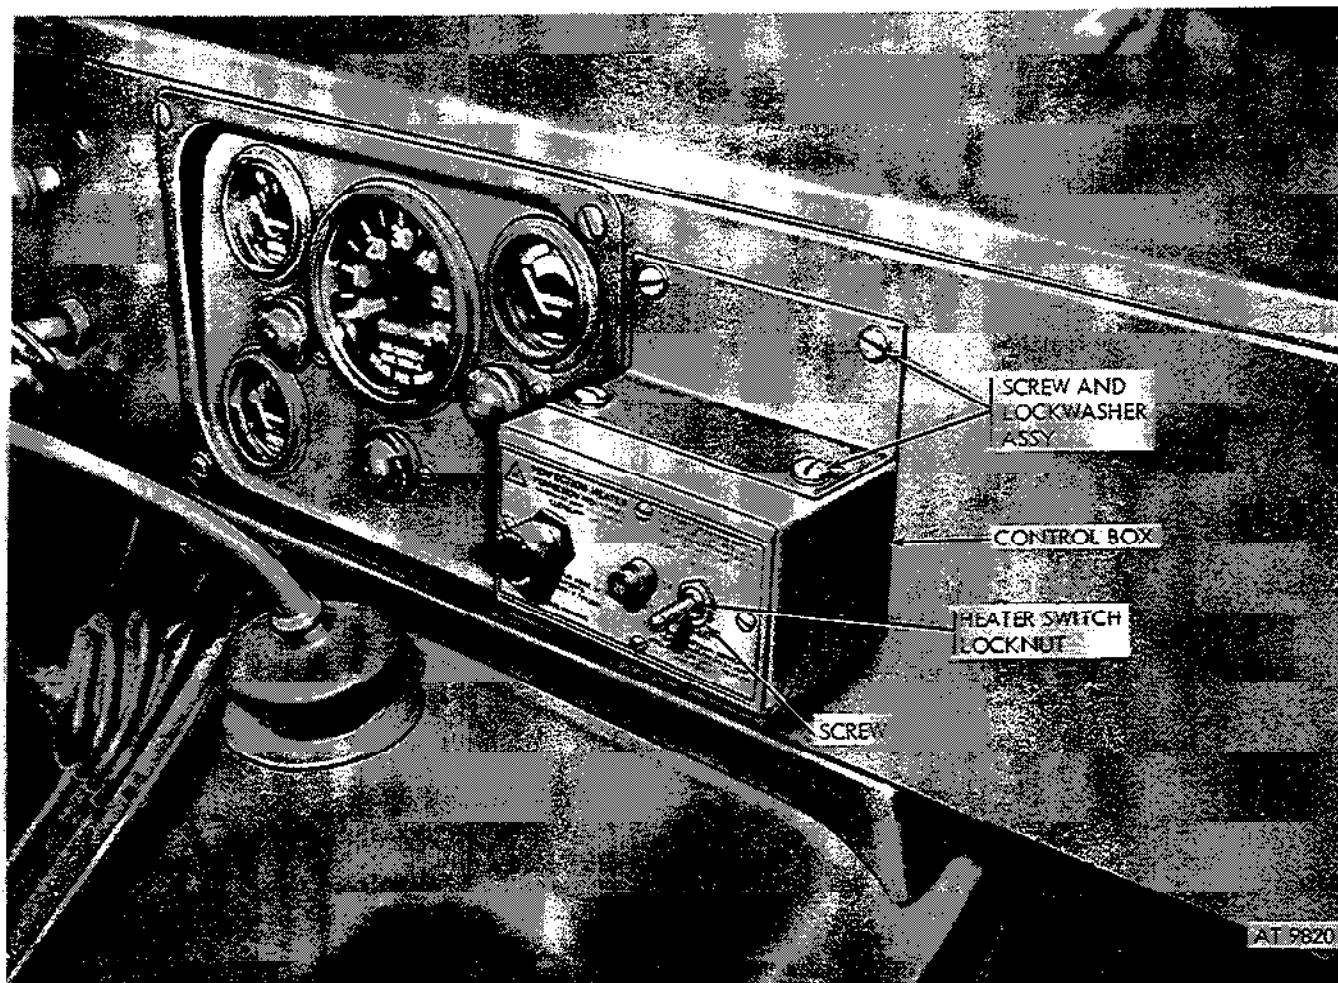

Figure 3-13. Control box assembly.
a. Removal. Refer to figure 3-13.
(1) Disconnect cable plug at underside of control box.
(2) Disconnect emergency switch cable under instrument panel.
(3) Remove two mounting screw and lockwasher assemblies retaining control box to mounting bracket.
(1) Remove two screws securing control box cover (fig. 3-13). Remove cover.
(2) Disconnect two jumpers and one cable from rear of switch.
(3) Remove locknut (fig. 3-13) securing switch to cover.